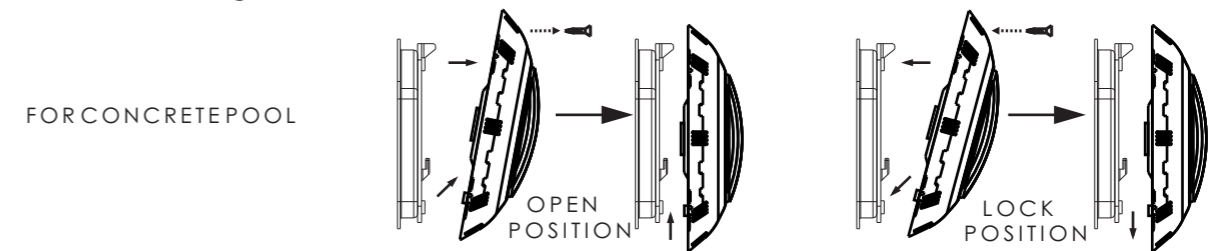

Figure 4.
- 10) Rotating Locking System ensures light is secured to bracket, see Figure 4.